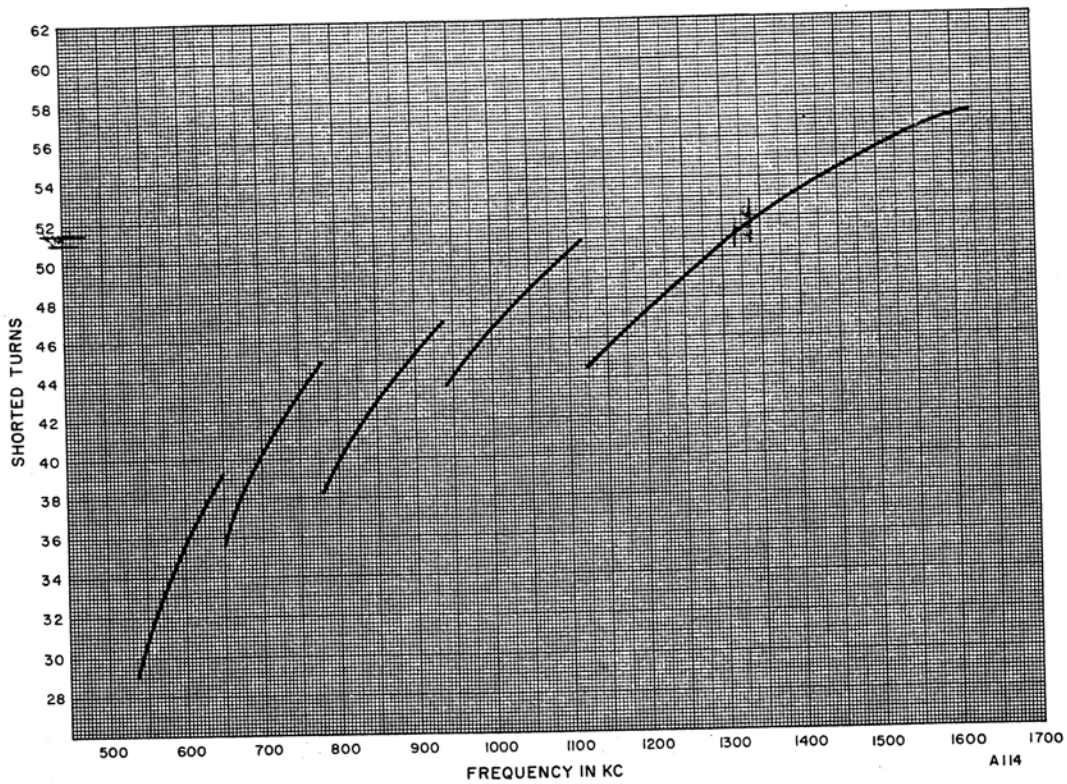

Figure 4. Tuning Chart, PA Tank, Coil 1L301 Jumper Connections
12. Refer to the Tuning Charts, figures 4 and 5, and adjust the shorting straps on the PA tank coil, 1L301, and the second harmonic trap coil, 1L304, according to the assigned frequency.